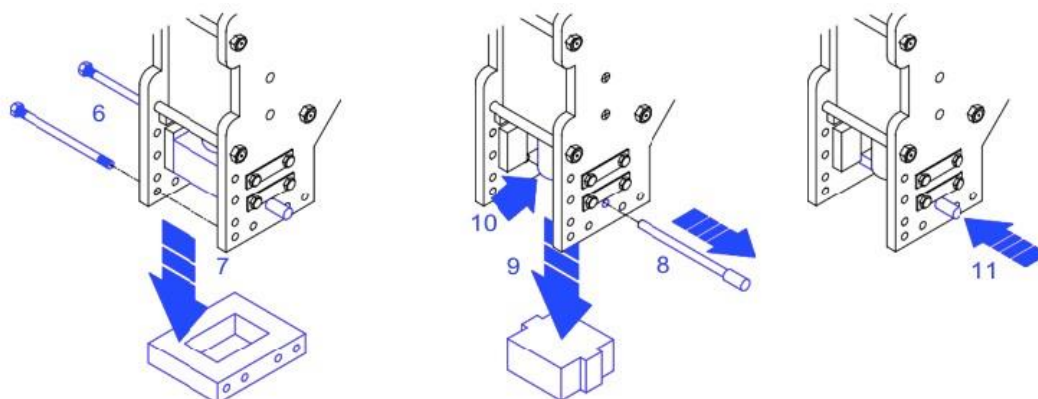

Fig.22. Hammer group structure 6-11
- Holding the pile hammer template still with one hand, extract the two pins that fix it to the hammer group structure (6). After that, remove the template out of its seat (7), as showed in figure 22.
- Holding the pile hammer still with one hand, extract the bearing pin out of its seat (8) and put it on a mobile table. After that, remove the pile hammer (9) carefully with the other hand and make sure the pile head does not fall down (10)
- Hold the pile head still and insert the bearing pin again in the appropriate hole (11) in order to block the descent of the bit. Next , mount the new pile hammer and the new pile hammer template. This can be done inverting the above described operation.